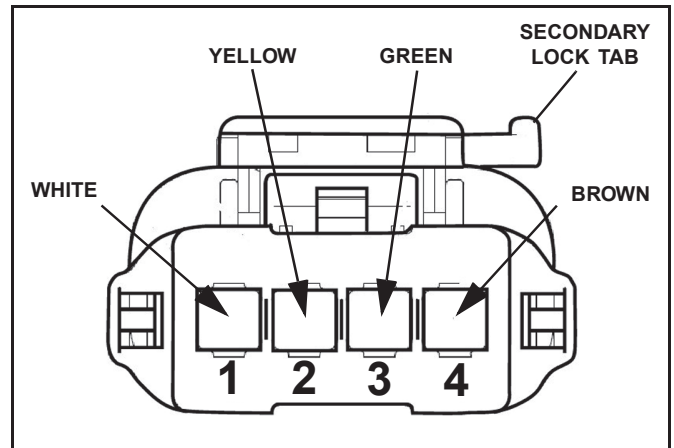

Figure 1-11
6. Remove blue pin lock from female connector. Push the pins on the end of each of the four wires into the back side of the connector (the end with recessed light blue seal). (See Figure 1-11 for pinning).
7. Verify wire placement by connecting the ProControl II™ harness. If wire colors do not line up, verify pin placement with Figure 1-11.